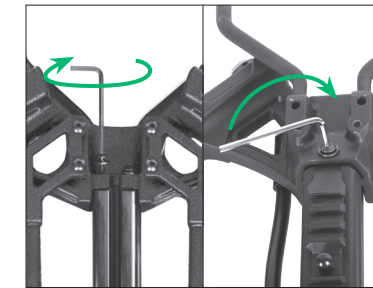

FIGURE 5
- 1c** Slide the riser (Fig. 2) (Part 18) onto the barrel. Install and tighten the riser mounting screws (3) (Fig. 5), using the small 1/8 hex wrench.